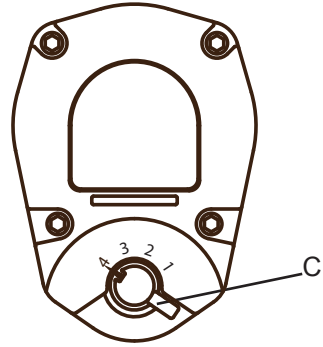

Fig. 03
- To adjust output power, turn the regulator (C) as shown in Fig. 03.